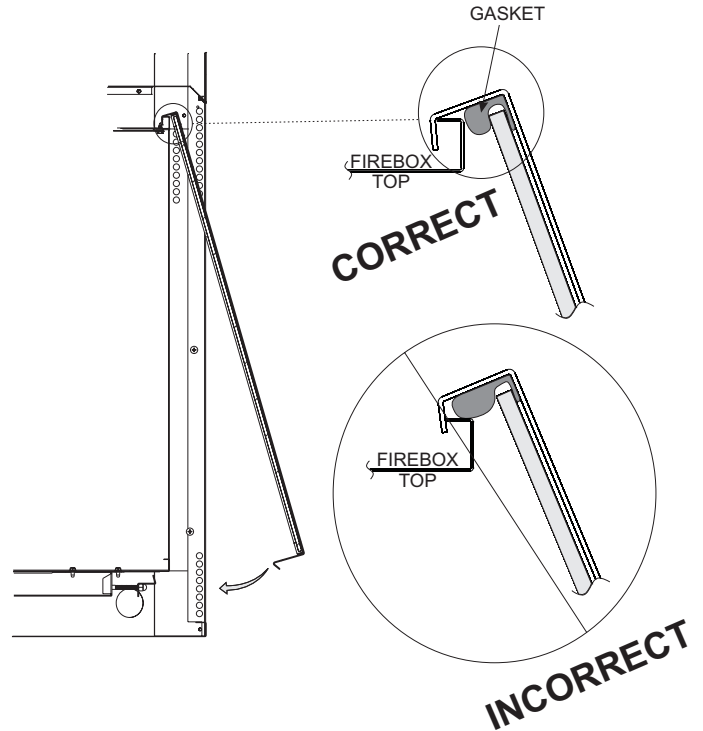

Figure 81
1. When installing the glass door, make sure that the door top flange is hooked over the firebox top flange as illustrated in the "Correct" view in **Figure 81**.
Important: Do not allow the gasket across the top of the door to roll up on top of the firebox flange as shown in "Incorrect" view in **Figure 81**.